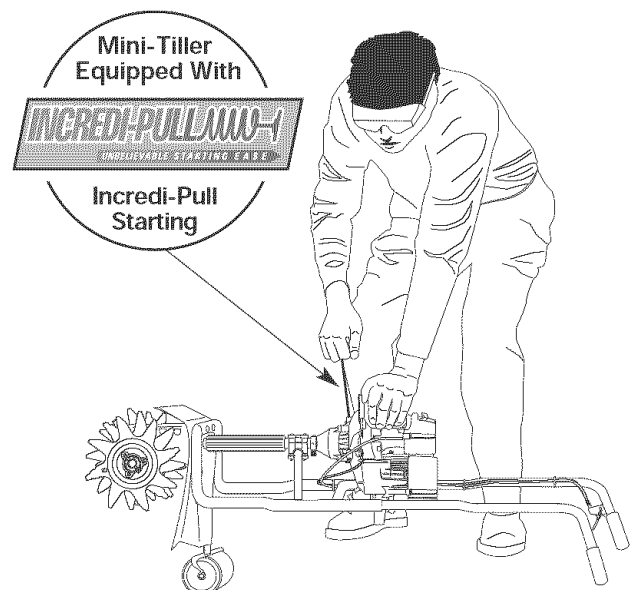

Fig. 10
WARNING: Avoid accidental starting. Make sure you are in the starting position when pulling the starter rope (Fig. 10). To avoid serious injury, the operator and unit must be in a stable position while starting.
5. Lay the unit on the ground horizontally, with the ends of the handles resting on the ground (Fig. 10).